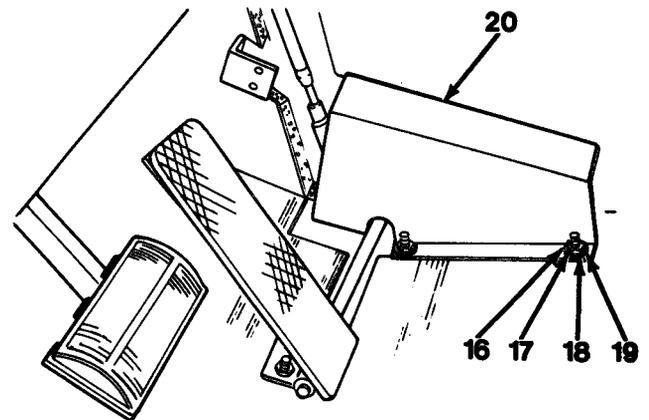

Figure 17-4
7. Remove two nuts (16), washers (17), lock-washers (18), washers (19) and cover (20, Figure 17-4).